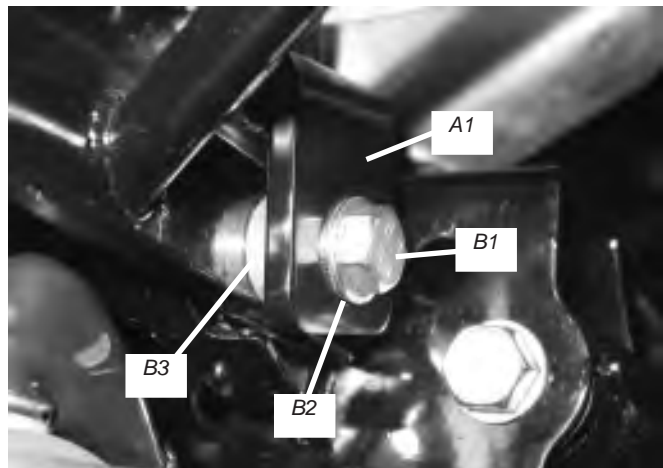

Figure 12 Bolt and Spacer Location
- Install two of the supplied 8mm-1.25 x 30mm bolts (B1) and flat washers (B2) into the middle bumper mounting location. Place the supplied spacer (B3) into position between the ATV frame and the winch mounting bracket tab, figure 12. Do not tighten at this time.